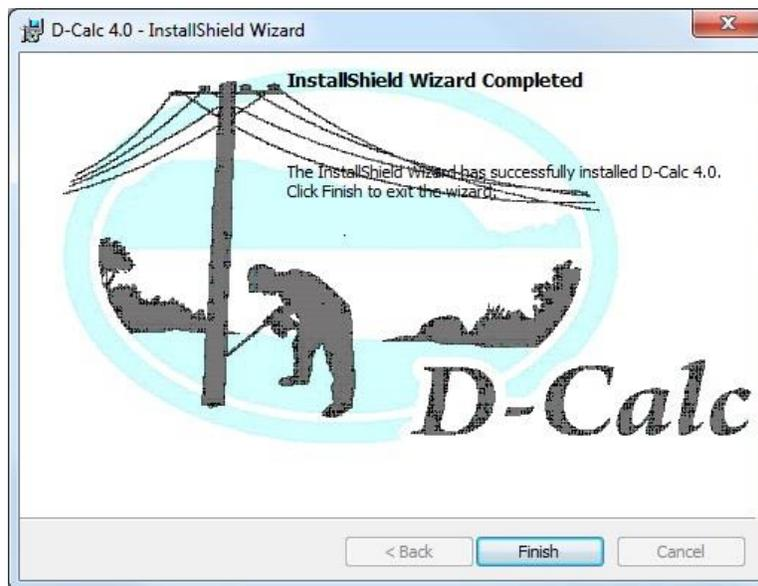

Figure 1-6 "Completion Dialog
11. Finally, the “Completion” dialog as shown in Figure 1-6 is displayed. Click the “**Finish**” button to conclude the installation of D-Calc 4.